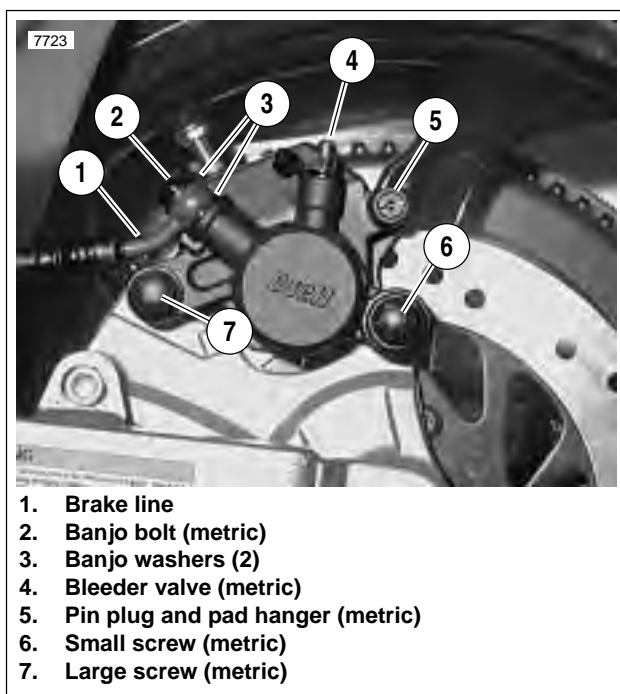

Figure 2-59. Rear Brake Caliper (Typical)
2. See Figure 2-59. Install caliper assembly on caliper mount. Brake pad surfaces must face rear brake rotor.
- b. Install large caliper screw (7) (metric). Tighten to 18-22 ft-lbs (24-30 Nm).
- c. Install small caliper screw (6) (metric). Tighten to 14.5-18 ft-lbs (20-24 Nm).